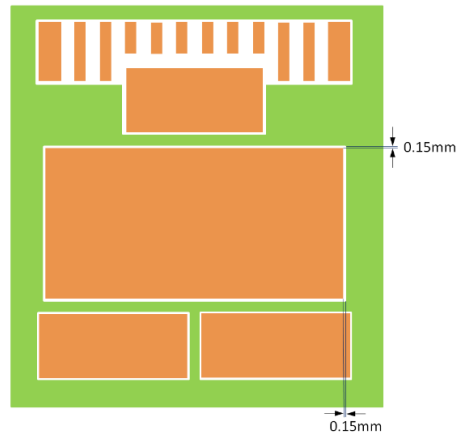

Figure 30. Standard PCB Footprint with 0.35 mm clearance between solder mask and package outline
- Alternatively, the solder mask opening can be as large as the package outline, with 0.35 mm clearance on each side between nominal package edge and solder mask. Please see also Figure 30 on solder mask design concept.